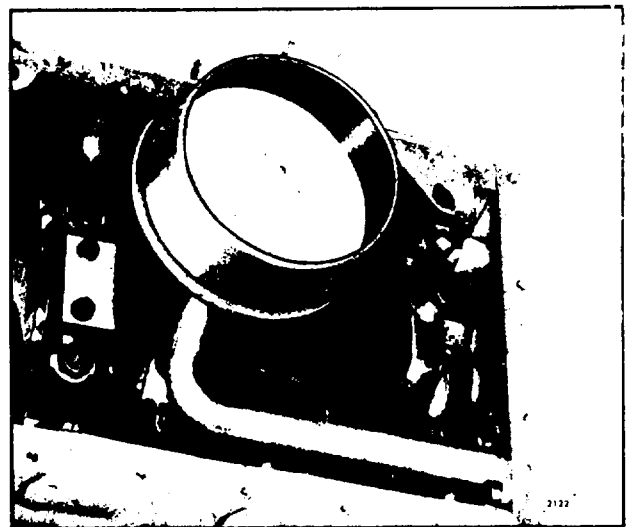

Fig. 2. - Typical Oil Pump Inlet Pipe and Screen Mounting
4. Refer to Fig. 2 and remove the four bolts which attach the oil pump inlet pipe and screen assembly to the main bearing cap and engine front cover or oil pump inlet elbow. Slide the flange and the seal ring oil the inlet pipe and remove the pipe and screen as an assembly. Remove the oil pump inlet elbow (if used) and gasket from the engine front cover.